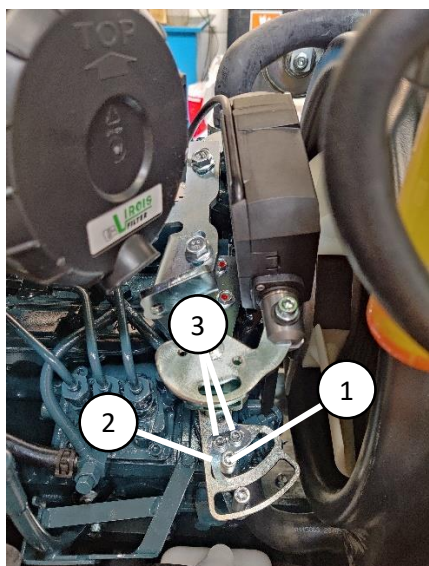

Figure 28. Throttle motor min. position
After this, set the diesel throttle motor position to 0%. Make sure that the engine stop lever goes into end position (figure 28 (1)). If it needs to be adjusted, loosen the bolts (figure 28 (3)) and move the adjustment plate (figure 28 (2)) so that the engine stop lever goes into end position. Tighten the bolts.